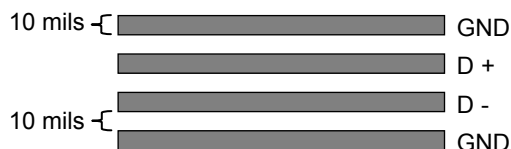

Figure 20 Recommended Remote Diode Circuit Board Interconnect
Any noise, both common-mode and differential, induced in the remote diode interconnect may result in an offset in the temperature reported. Circuit board layout should follow the recommendation of Figure 20. Basically, use 10-mil lines and spaces with grounds on each side of the differential pair. Choose the ground plane closest to the CPU when using the CPU's remote diode.
2. Match the trace routing of the D+ and D- leads and use a 1.0nF filter capacitor close to the aSC7531. Use ground runs along side the pair to minimize differential coupling as in Figure 20.